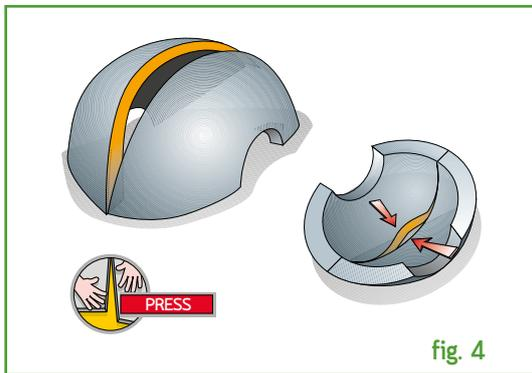

fig. 4
4) Cover the elbow joint with the piece obtained, glue the cut edges by pressing them to make them adhere well and to fit with other straight sections of the same diameter (fig 4)
4) Once the glue has dried, join the two flat sections, start gluing from the ends, making sure that the join is also perfect on the other side. (fig 4)